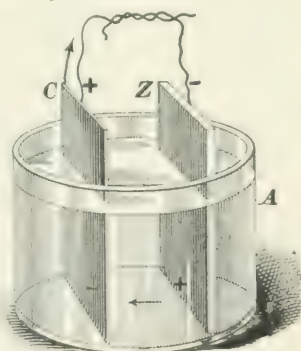

FIG. 2.
12. A simple voltaic, or galvanic, cell, Fig. 2, is an apparatus for developing a continuous current of electricity. It consists essentially of a vessel containing saline or acidulated water in which are submerged two plates of dissimilar metals, or one metal and a metalloid (as, for instance, carbon).